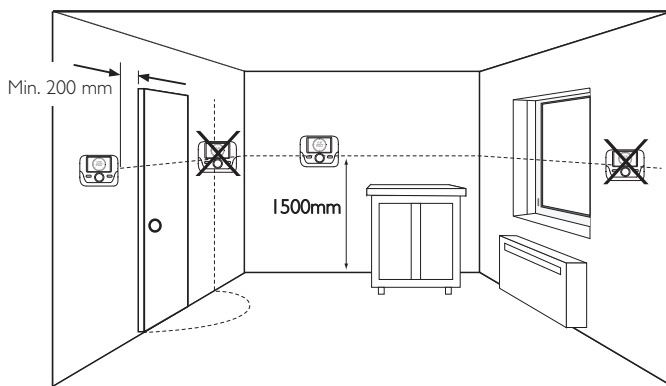

Fig. 8. Location positions
3. Identify a suitable site to locate the Programmer & Room Sensor. See Fig. 8 for guidance on where to locate the unit.